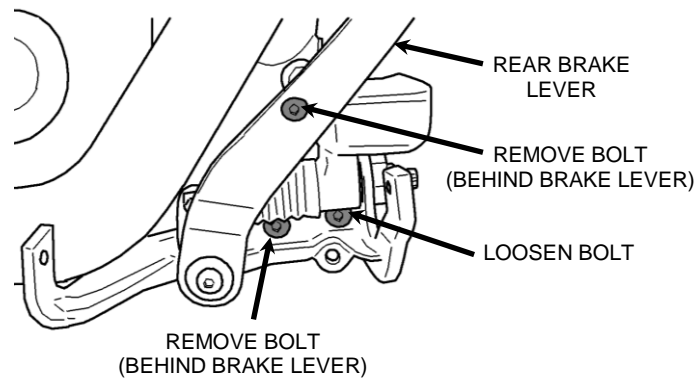

FIGURE 1
4. On FLSTC, FLSTF, FLSTFB, and FLSTN, remove the right floorboard. Remove the top and rear bolts for the right floorboard mounting bracket that are behind the rear brake lever. Loosen the front bolt and rotate the mount down out of the way. See **FIGURE 1**. This will make the installation of the exhaust and heatshields easier.